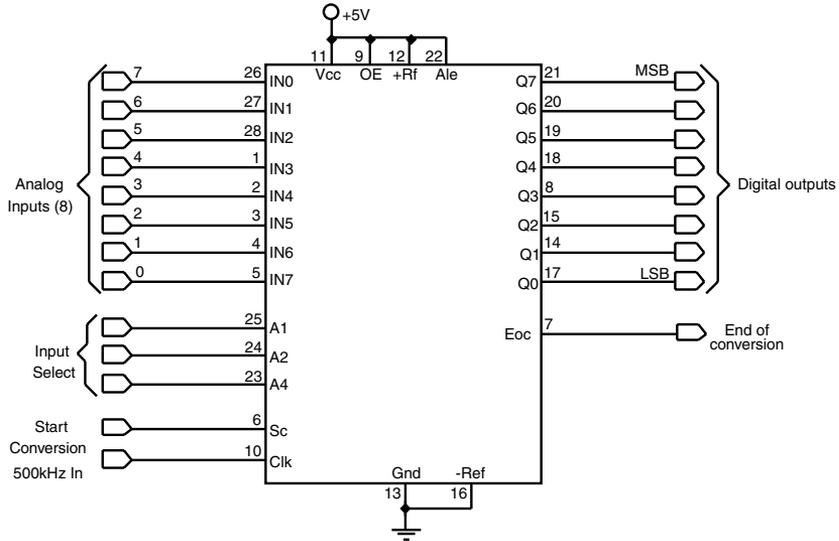

FIGURE 29.20 Basic hookup circuit for the ADC0809 analog-to-digital converter.
Fig. 29.20 shows a basic circuit for using the ADC0809, which provides eight analog inputs and an 8-bit conversion resolution. The input you want to test is selected using a 3-bit control sequence—000 for input 1, 001 for input 2, and so on. Note the ~500 kHz time base, which can come from a ceramic resonator or other clock source or from a resistor/capacitor (RC) time constant. If you need precise analog-to-digital conversion, you should use a more accurate clock than an RC circuit.